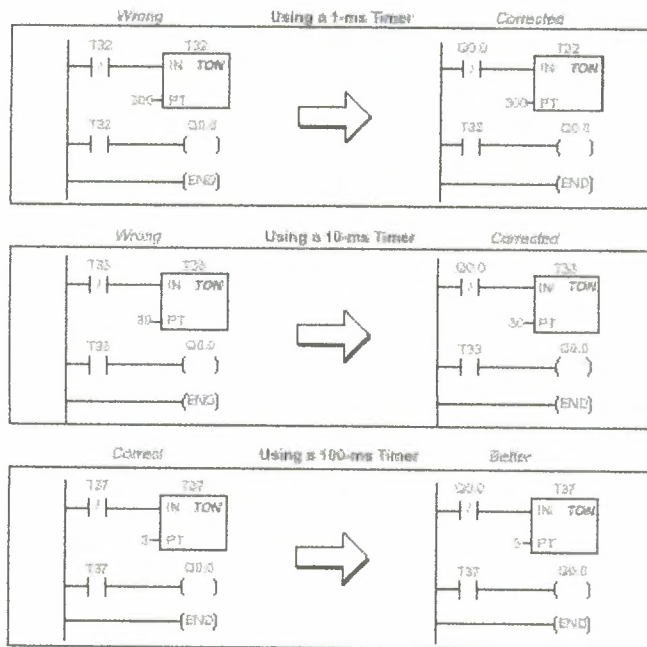
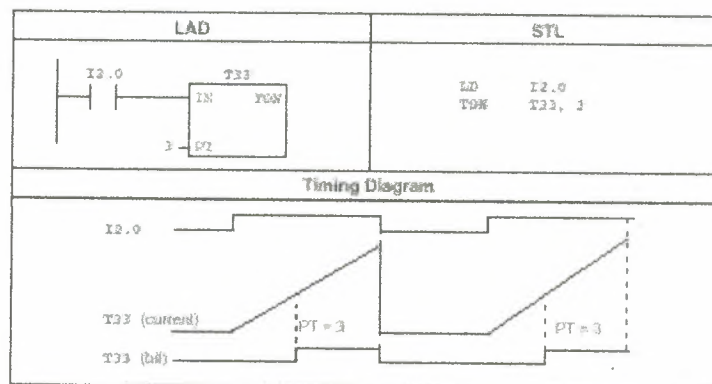
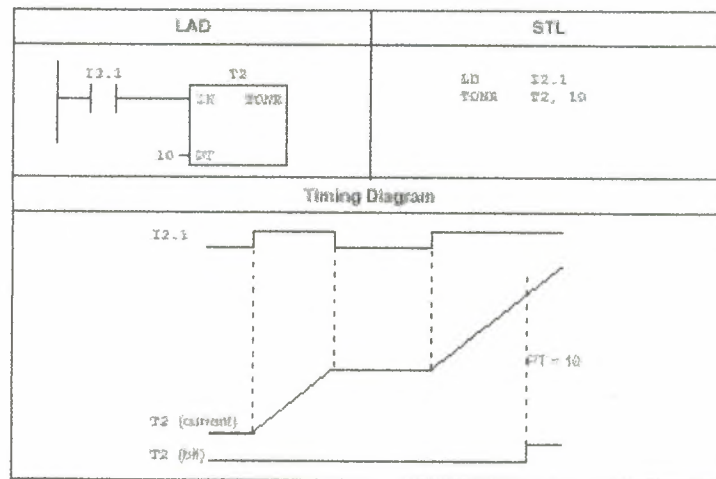

Figure 7.6 Example of Automatically Retargeted One Shot Timer
Figure 7.7 Example of On-Delay Timer Instruction for LAD and STL
Figure 7.8 Example of Retentive On-Delay Timer Instruction for LAD and STL
The effect of the various ways in which current time values are updated depends upon how the timers are used. For example, consider the timer operation shown in Figure 7.6.
- In the case where the 100-ms timer is used, Q0.0 is always turned on for one scan whenever the timer's current value reaches the preset value. By using the normally closed contact Q0.0 instead of the timer bit as the enabling input to the timer box, the output Q0.0 is guaranteed to be turned on for one scan each time the timer reaches the preset value (see Figure 7.6). Figure 7.7 and Figure 7.8 show examples of the Timer instructions for ladder logic and statement list.